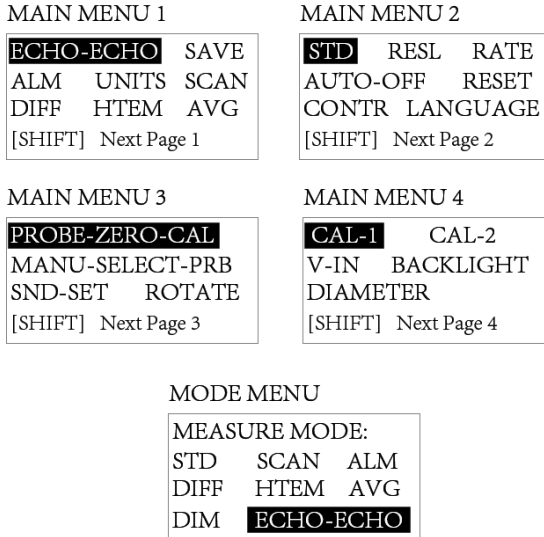

Fig. 4-1: Main menus 1-4 and measurement mode menu of the SW7 models
1. Press **MENU** to enter the main menu (as shown in Figure 4-1).
Press **MENU** to open the main menu (shown in Fig. 4-1).